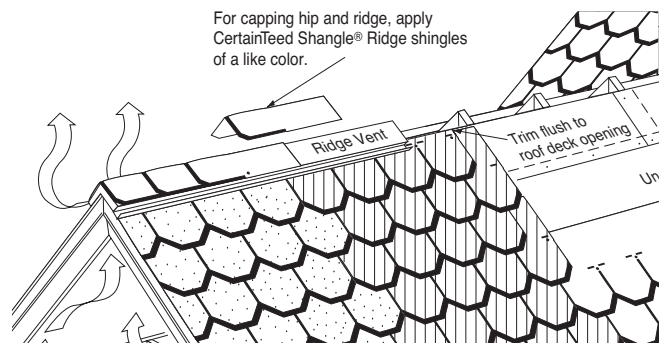

Figure 15-16: Installation of Shingle Ridge shingles on ridge vent.
8. If shingle-over ridge vents are being installed (Figure 15-16), they must match the 12" width dimensions of the hip and ridge caps. Be sure to follow the ridge vent manufacturer's instructions. To attach the cap shingles to the shingle-over ridge vent, use hot-dipped galvanized nails of sufficient length to penetrate $\frac{3}{4}$ " into, or through, the deck.